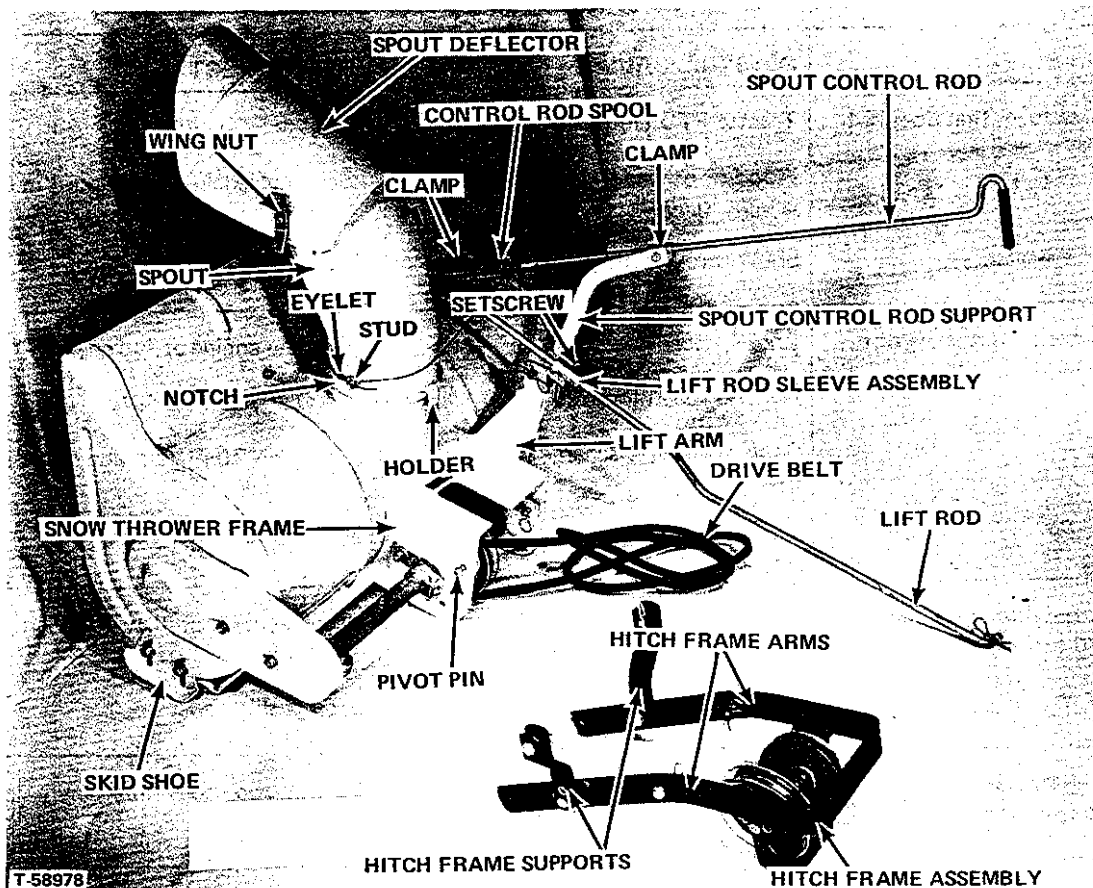

FIGURE 9
1. Bolt the lower hole in hitch frame supports to the rear of the set of 2 holes in the middle of hitch frame arms. Leave locknuts on bolts loose enough that supports can be rotated - (Figure 9).
2. Bolt the spout control rod support to the right hand side of snow thrower frame - (Figures 9 and 10).
3. Install spout control rod into bearing located on right hand front of snow thrower housing. Install one cotter pin in control rod on each side of bearing. Place clamp over spout control rod and bolt it to control rod support. Use locknut on bolt and tighten it just tight enough to create a slight drag on spout control rod when it is rotated. This is to prevent undesired rotation of spout while operating the snow thrower. (Figures 9 and 10)
4. Place a thin coating of light grease on the snow thrower housing outlet flange where spout contacts housing when in working position. Rotate spout until notch lines up with holder on snow thrower housing. Slip spout down over end of housing discharge until it rests on outlet flange. Rotate the notch away from holder - (Figure 9).